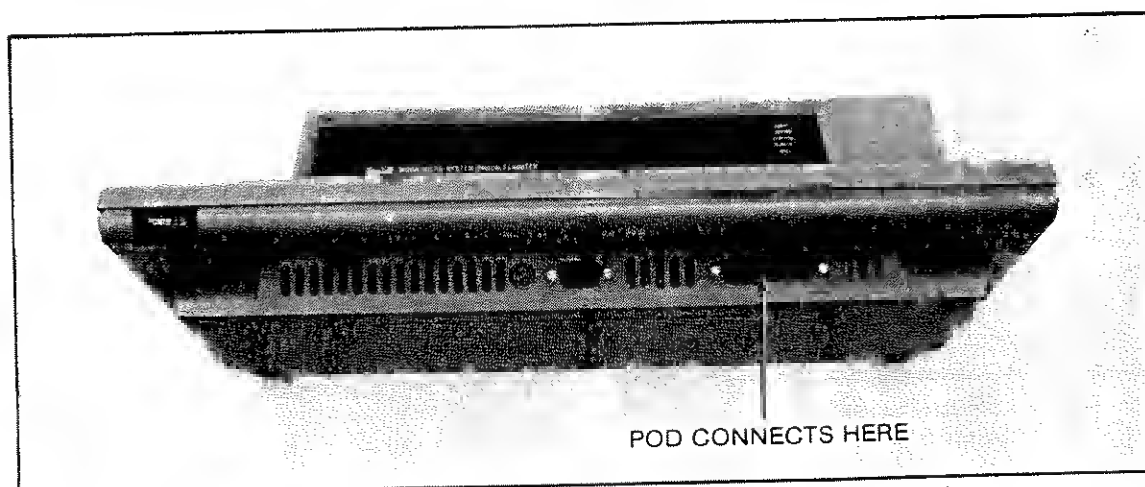

Figure 2-2. Connection of Interface Pod to Troubleshooter
3. If it is not already connected, use the round shielded cable to connect the Pod to the Troubleshooter at the location shown in Figure 2-2. Secure the connector using the sliding collar.